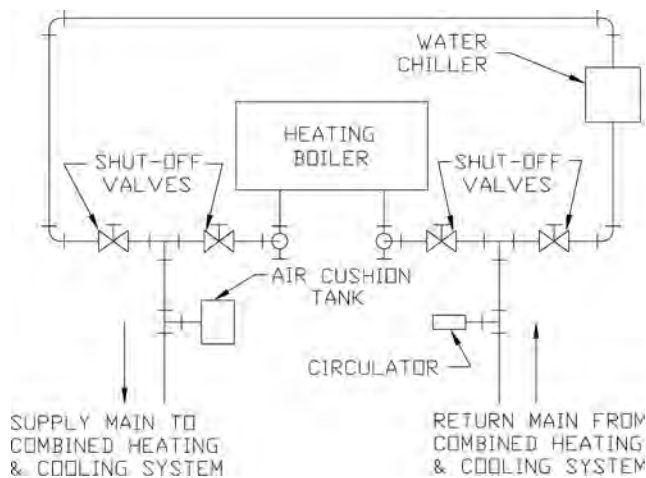

FIG. 15
- c. With COMBINATION HEATING AND COOLING (REFRIGERATION) SYSTEMS having the same Distributing Units, Piping and Circulator, See Fig. 15. For additional reference, consult ASHRAE Systems Handbook 2008 Edition.